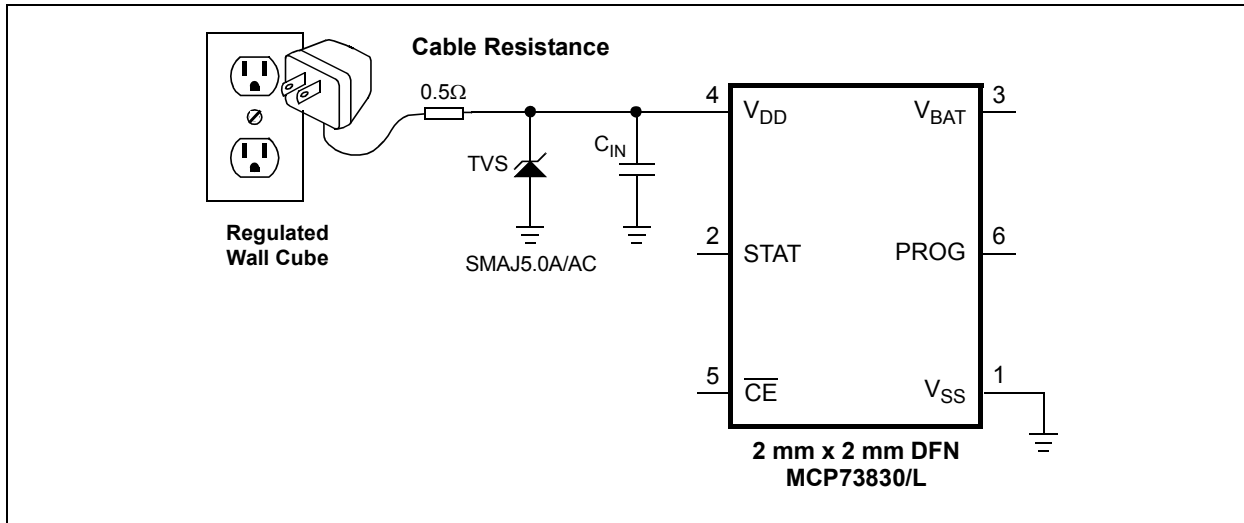

FIGURE 6-3: Input Overvoltage Protection Example.
Input overvoltage protection must be used when the input power source is hot-pluggable; this includes USB cables and wall-type power supplies. The cabling of these supplies acts as an inductor. When the supplies are connected/disconnected from the system, large voltage transients are created which may damage the system circuitry. These transients should be snubbed out. A transzorb, unidirectional or bidirectional, connected from the V+ input supply connector to the 0V ground reference will snub the transients. An example of this can be seen in Figure 6-3.
5. Added clarifying information to Figure 6-3.